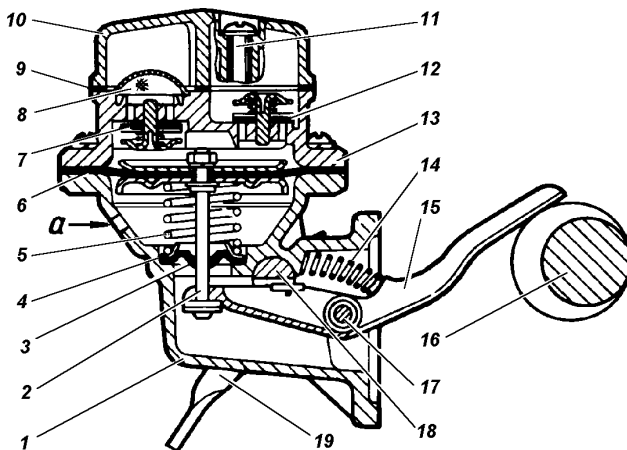

Fig. 30. Fuel Pumps of B9B type\*:
**Fuel pump.** Periodically check the fuel pump through the inspection hole "a" (Fig. 30) for leakage of fuel. Leakage of fuel indicates, that the diaphragm is faulty.